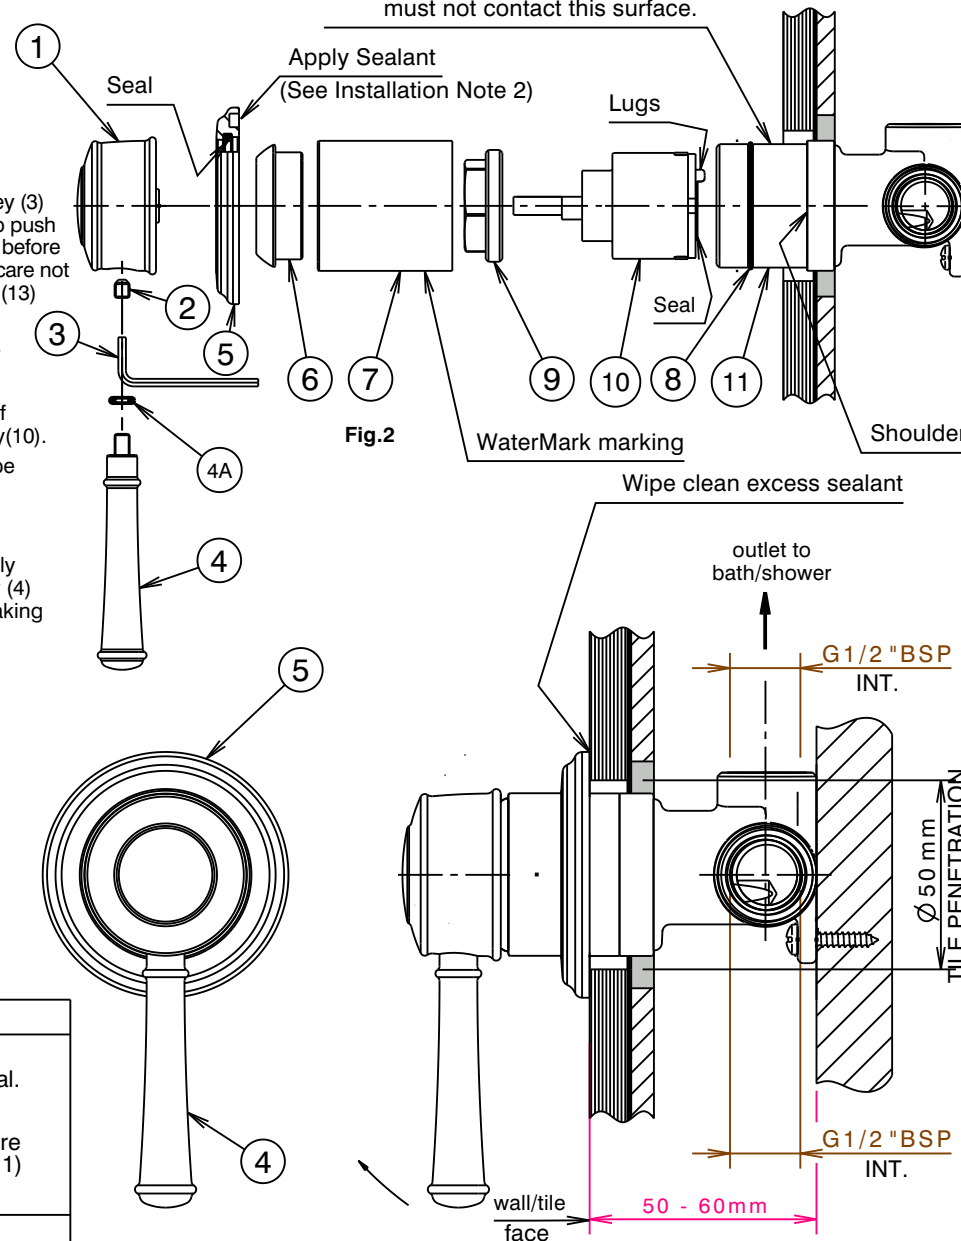

Fig. 1
Installation (Fig. 1 & 2)
- * Mixer body (11) must be installed square to wall/tile face, to ensure cover plate (5) sits flush.
- 2) **Trim Kit:** Remove protective cap from mixer body (11). Ensure the external surface of the mixer body (11) is clean. Fit 'O'-ring (8) onto body (11) and apply lubricant on 'O'-ring (8), then slide sleeve (7) (with WaterMark marking underneath) over mixer body (11) up to the shoulder as shown. Screw cap (6) onto the thread of nut (8) and hand tighten to secure the sleeve (7).
- 3) Apply a suitable clear sealant to the back edge of the cover plate (5), leaving an unsealed section at the bottom for drainage. Carefully slide the cover plate (5) (fitted with seal) over the mixer body sleeve (7) with the 'CAROMA' logo aligned at the bottom. Push the cover plate (5) firmly against the wall/tile face. Wipe/clean excess sealant from the trim surfaces & the wall/tile face (See Fig. 1).
- 4) Fit handle (1), taking care that it is pushed fully onto cartridge stem, then tighten grub screw (2) using the 2.5mm allen key (3). Screw handle lever (4) together with seal (4A) into handle (1) and tighten firmly by hand, taking care not to damage decorative finish.